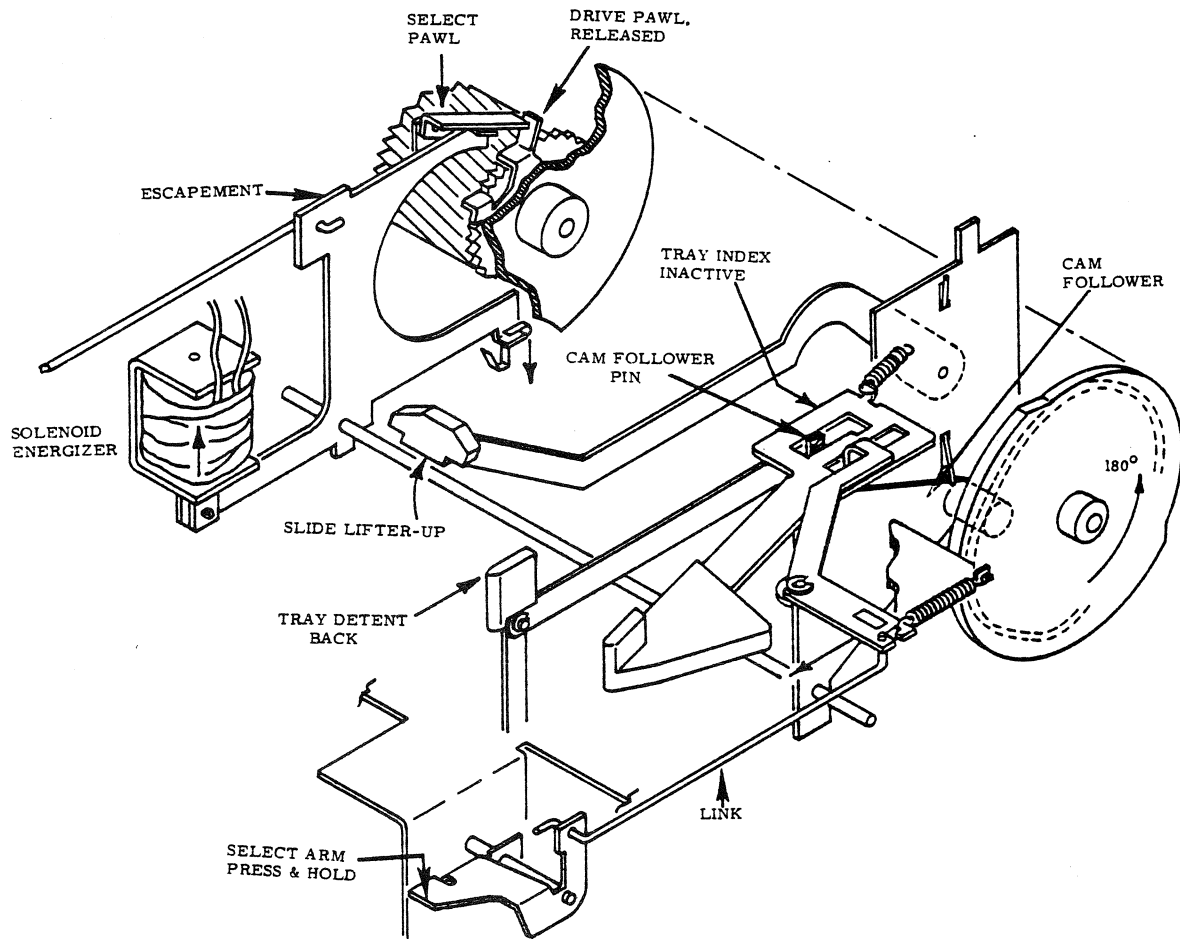

Figure 3-8. Select operation. "Hold Position".
2. Mechanical(Figure 3-8). Mechanically, two events occur and at the same time. The solenoid is energized which pulls the escapement allowing